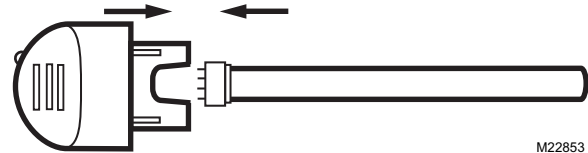

Fig. 17. Replace lamp glass in SnapLamp™ handle.
6. Insert the new lamp glass into the SnapLamp™ handle by aligning the notch and pushing straight together. See Fig. 17.